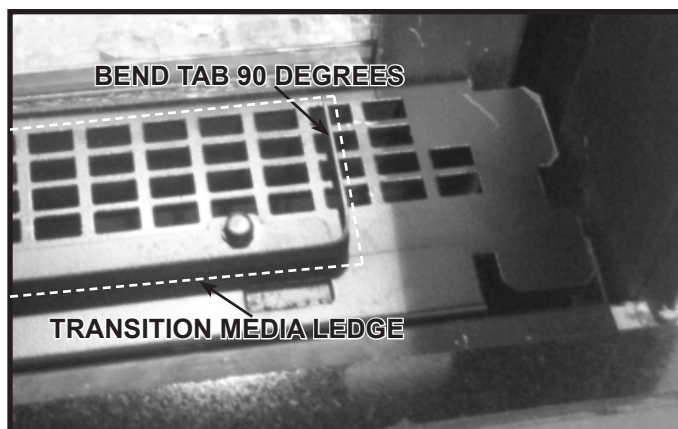

Figure 14. Transition Media Tray Installed
12. Bend the tabs on each end of the transition media ledge. This will allow for granite clearance. See Figure 14.